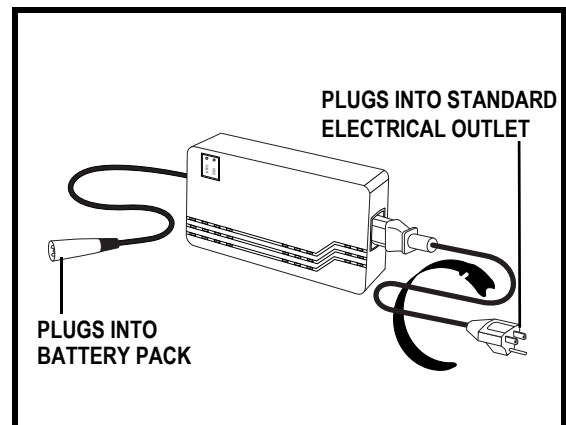

Figure 14. Off-Board Battery Charger
5. Extend the charger power cord from the off-board battery charger and plug it into the electrical outlet. **See figure 14.** It is recommended that you charge your batteries for 8 to 14 hours.